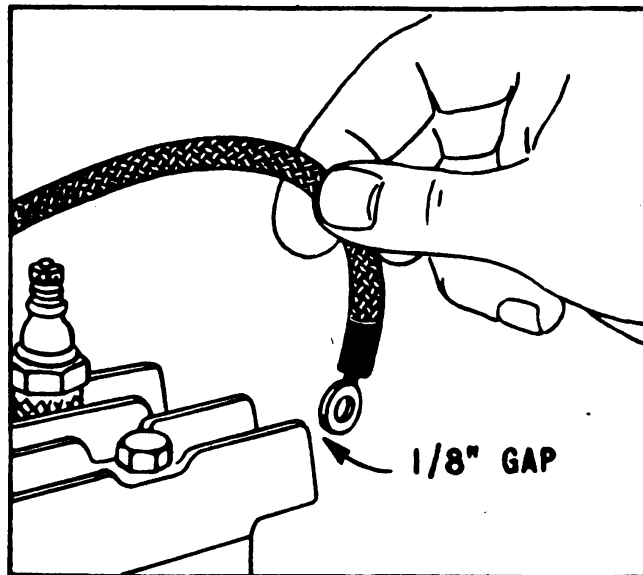

Figure 10.—Checking for spark
b. Check for spark.—To see if a satisfactory spark is being delivered by the magneto, remove the ignition cable from the plug. Hold the ignition cable terminal about $\frac{1}{8}$ inch from any part of cylinder head (fig. 10). (Keep hand on insulated part of cable to avoid shock.) Turn the engine with the starter cord. If the spark jumps this gap the entire ignition system with the exception of the spark plug, is in good working order. If no spark occurs, check the spark plug cable, contact points, and condenser in the order named.